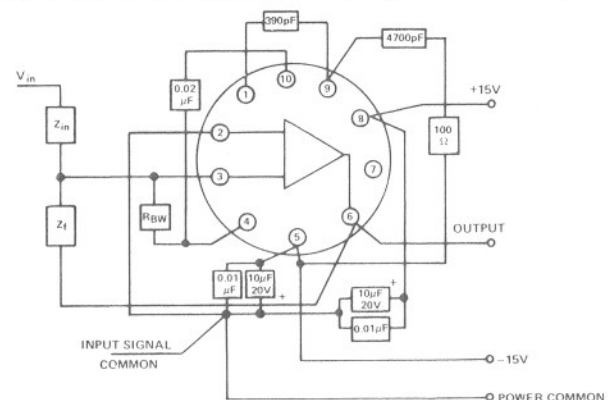

Figure 4. Wiring Diagram of the AD505.
- (1) Power supply bypasses should be provided as close to the amplifier as possible to eliminate ringing due to the inductance of power supply leads. A tantalum 10μF capacitor in parallel with a ceramic 0.01μF capacitor is sufficient for this purpose (see Figure 4).
- (2) All ground connections should be made at a single ground point.
- (3) Keep leads short to eliminate stray impedance effects.
Figure 4 shows an optimum wiring diagram of the AD505.